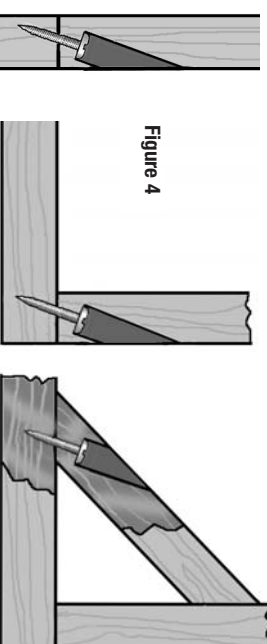

Figure 4
4. Clamp the two work pieces together in the desired final configuration. Drive screws (1-1/4" square head screws supplied) into the pocket holes to complete the joint (see Figure 4). Glue may be used in the joint if desired.